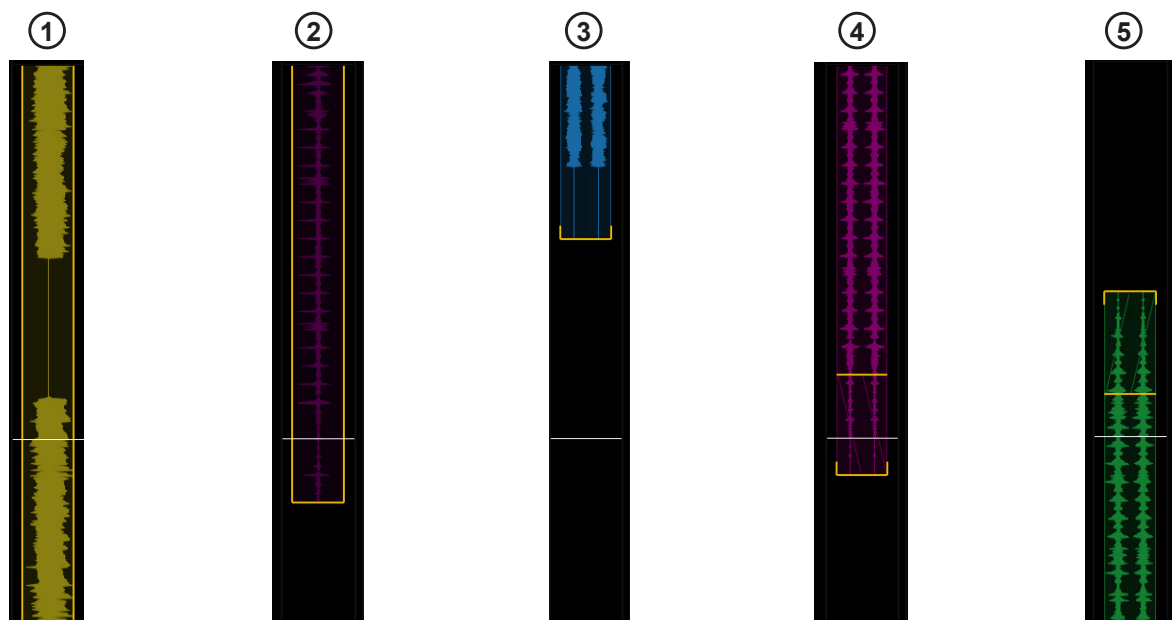

Figure 79. Clip editing indicators
**Clip Gain** The waveform gets wider as Clip Gain is increased, and narrower as it is decreased. See “1” in Figure 79.
**Move** The entire clip remains highlighted and moves later in time (rotate encoder clockwise, or press **Sel**), or earlier (counter-clockwise, or press **In**). See “2” in Figure 79.
**Trim Back and Trim Front** A bracket appears at the tail of the clip (Trim Back) or head of the clip (Trim Front). See “3” in Figure 79.
**Fade In** A bracket appears at the head of the clip, and the Fade In length is indicated by a horizontal line that moves as you adjust the Fade In value. See “4” in Figure 79.
**Fade Out** A bracket appears at the tail of the clip, while the Fade out length is indicated by a horizontal line that moves as you adjust the Fade Out value. See “5” in Figure 79.